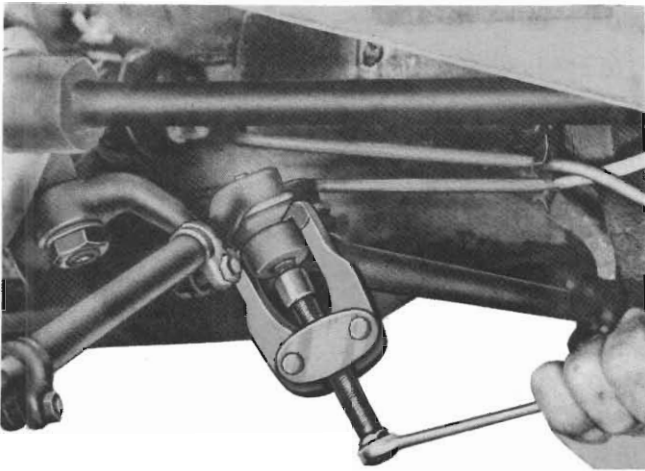

Fig. 8 - Removing the tie rod end stud (Tool E2C15)
- (3) Disconnect the shock absorber from the lower control arm and push it up out of the way.
- (4) Remove all load from the torsion bar by backing off the adjusting bolt.
- (5) Remove the torsion bar from the lower control arm (*see Para. 6*).
- (6) Remove the cotter pin and nut. Slide the tie rod end seal shields up the steering knuckle arm. Remove the tie rod end from the steering knuckle arm using Tool E2C15 (*Fig. 8*).